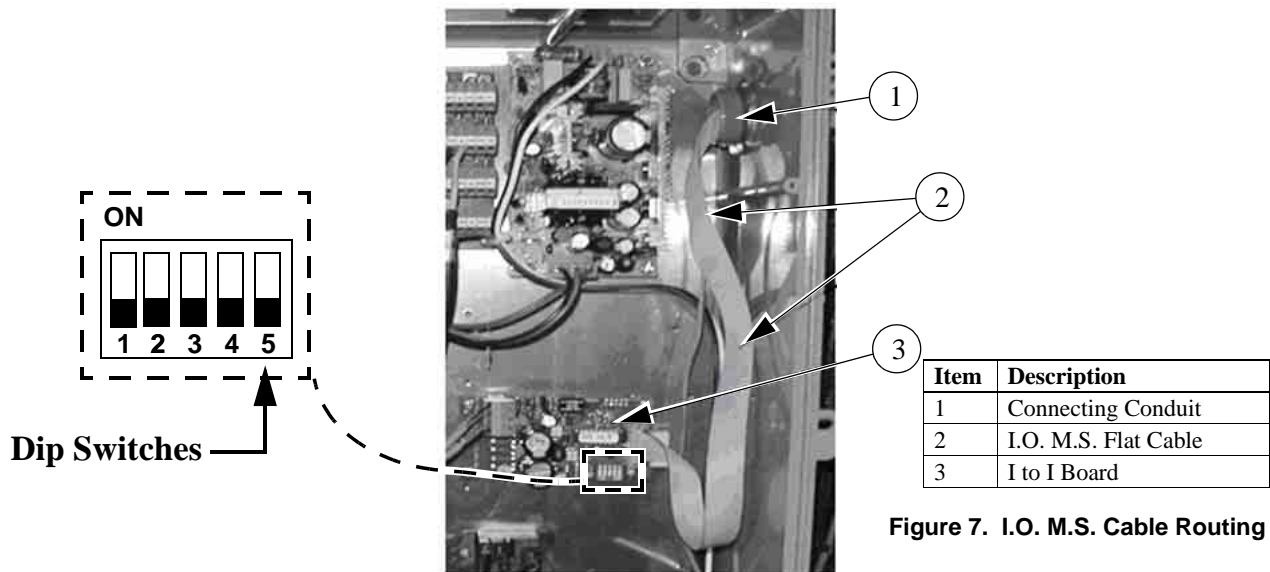

Figure 7. I.O. M.S. Cable Routing
Step 8: Route the I.O./M.S. Flat cable back through the connecting conduit and plug it into the I to I board. (See Figure 7). Note: **Only the flat cable and the ground wire should be routed through the conduit.** Check the DIP Switch settings on the I to I Board (Item 3).